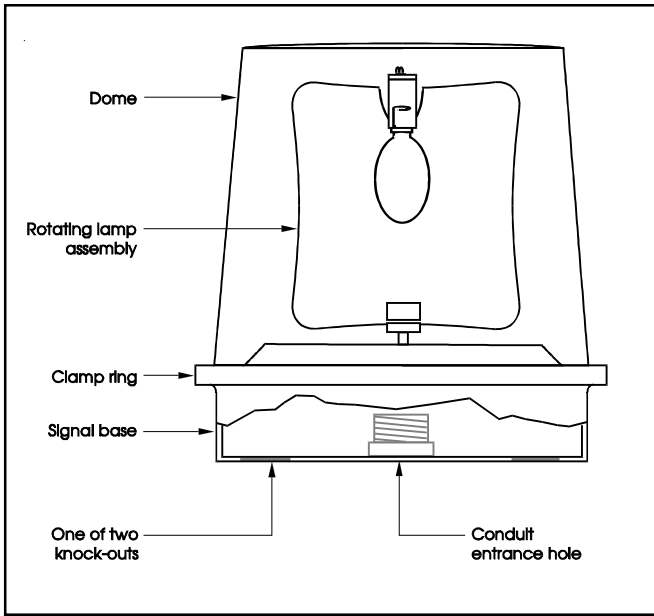

Figure 1. Catalog 53D-GW Rotating Light
1. Remove the screw in the clamp ring, remove the ring and lift off the dome (Figure 1).
- a. Remove the two knockouts for the mounting screws from the bottom of the base. See Figure 1 for the location of the knockouts.